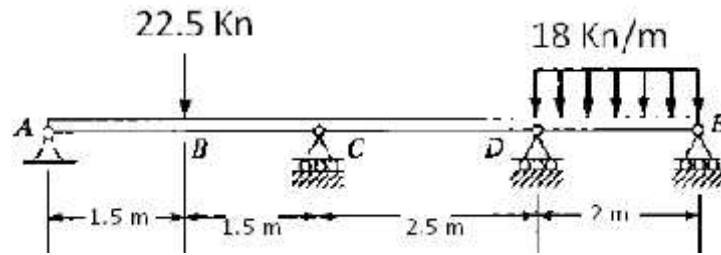

Fig. 4
4. Three span beam is loaded as shown in the Fig. 4. Determine the support reactions and deflection at the mid span. Take $E = 2 \times 10^{11}$ pa and $I = 1.27 \times 10^{-4}$ m⁴.